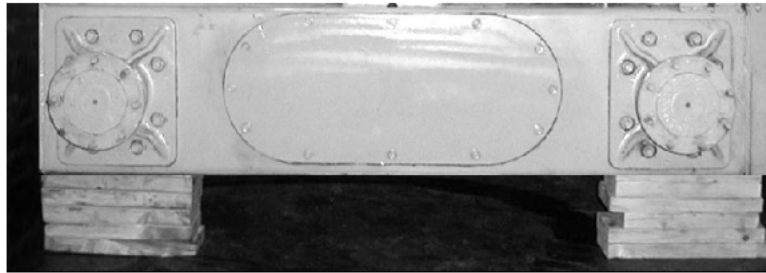

Figure 37 Loader Properly Blocked
2. Stack wooden blocks under the flat part of the loader chassis. They should be parallel to, but not touch, the rear tires (Figure 37).